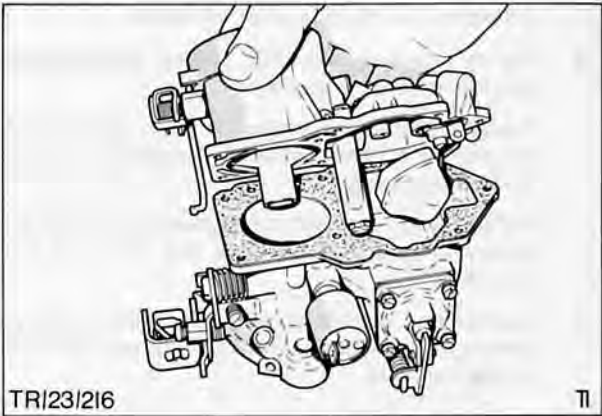

Fig. 38. Removal of carburettor upper body
2. Remove seven screws, disconnect choke link and detach upper body assembly, Fig. 38.